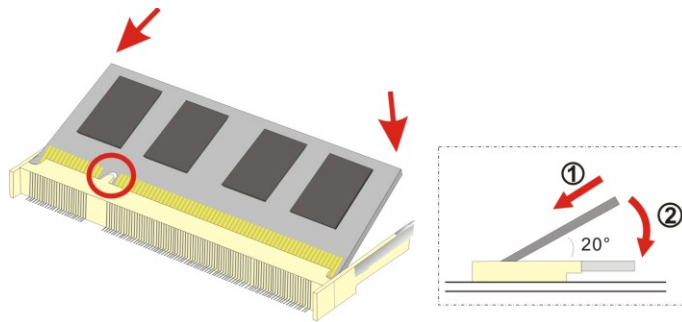

Figure 4-1: SO-DIMM Installation
To install an SO-DIMM, please follow the steps below and refer to Figure 4-1.
- Step 3:** Insert the **SO-DIMM**. Push the memory in at a 20° angle. (See Figure 4-1)
- Step 4:** Seat the **SO-DIMM**. Gently push downwards and the arms clip into place. (See Figure 4-1)